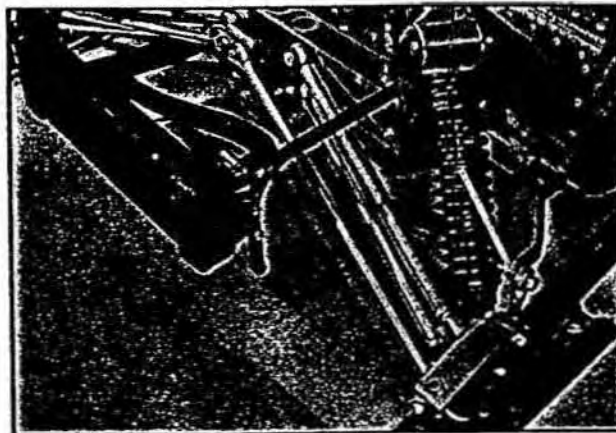

Figure 5
6. The torsion bar should be set so there is slight up pressure, approximately 1/8" — 1/4", to the left hand torsion arm. To adjust the torsion bar tension so there is slight up pressure on the left hand torsion arm, shorten the left hand torsion adjustment, Fig. 5, or lengthen the right hand torsion adjustment.